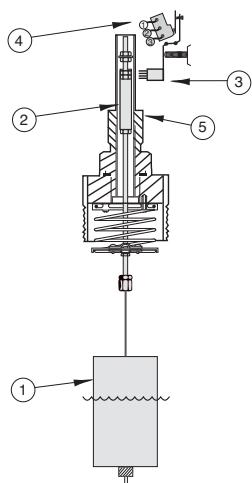

Figure 1
A spring is loaded with a weighted displacer (1) which is heavier than the liquid. Immersion of the displacers caused by rising liquid level imparts buoyancy forces on the displacer allowing the spring to compress. The attraction sleeve (2) attached to the spring, moves upward into the field of a permanent magnet (3). The movement of the magnet toward the sleeve causes the switch (4) to actuate. A non-magnetic barrier tube (5) provides a static pressure boundary between the switch mechanism and the displacer assembly. As the liquid level falls, the displacer lowers, causing the spring to extend, and moving the attraction sleeve out of the magnetic field of the switch mechanism. This allows the switch to again change position and to break or make. See Figures 1 and 2.